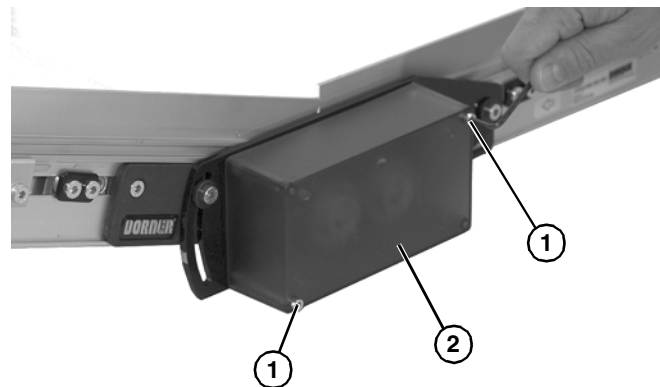

Figure 61
1. Remove two screws (Figure 61, item 1) and cover (Figure 61, item 2).